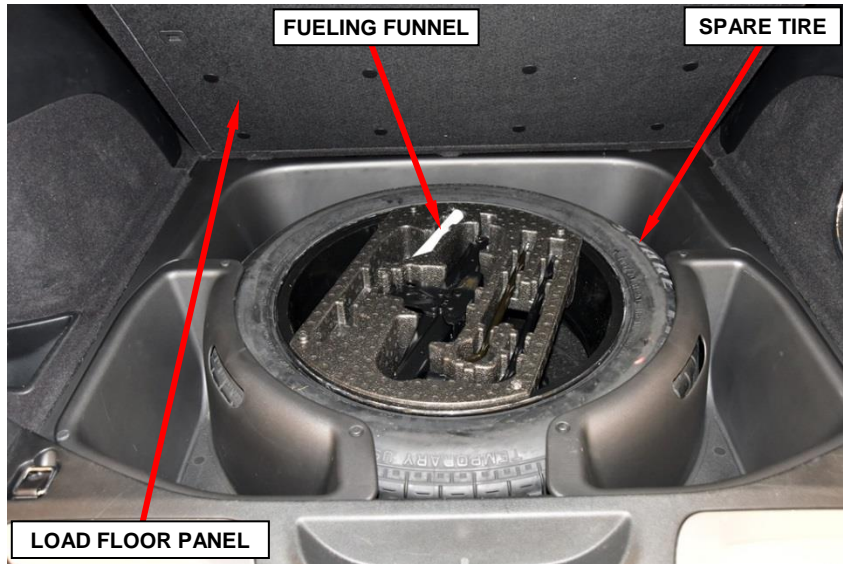

Figure 4 – Fueling Funnel Location
1. Open the liftgate and raise the load floor panel, then locate the fueling funnel stored with the spare tire (Figure 4).
30. Return the fueling funnel to the storage area near the spare tire. Lower the load floor panel into position, then close the liftgate (Figure 4).